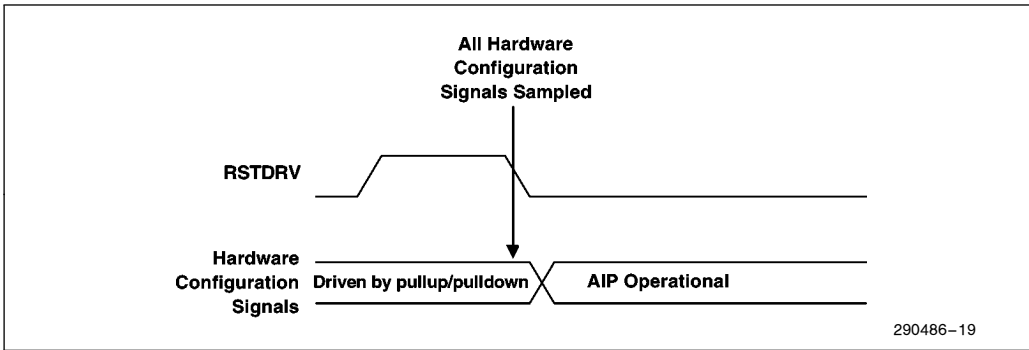
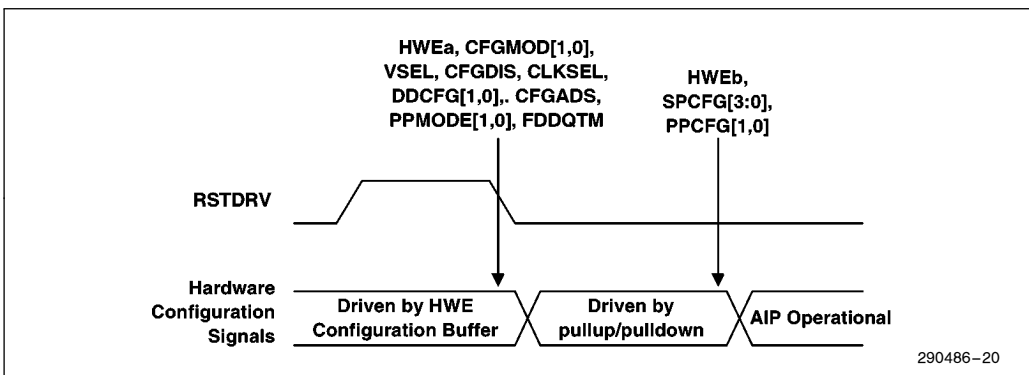
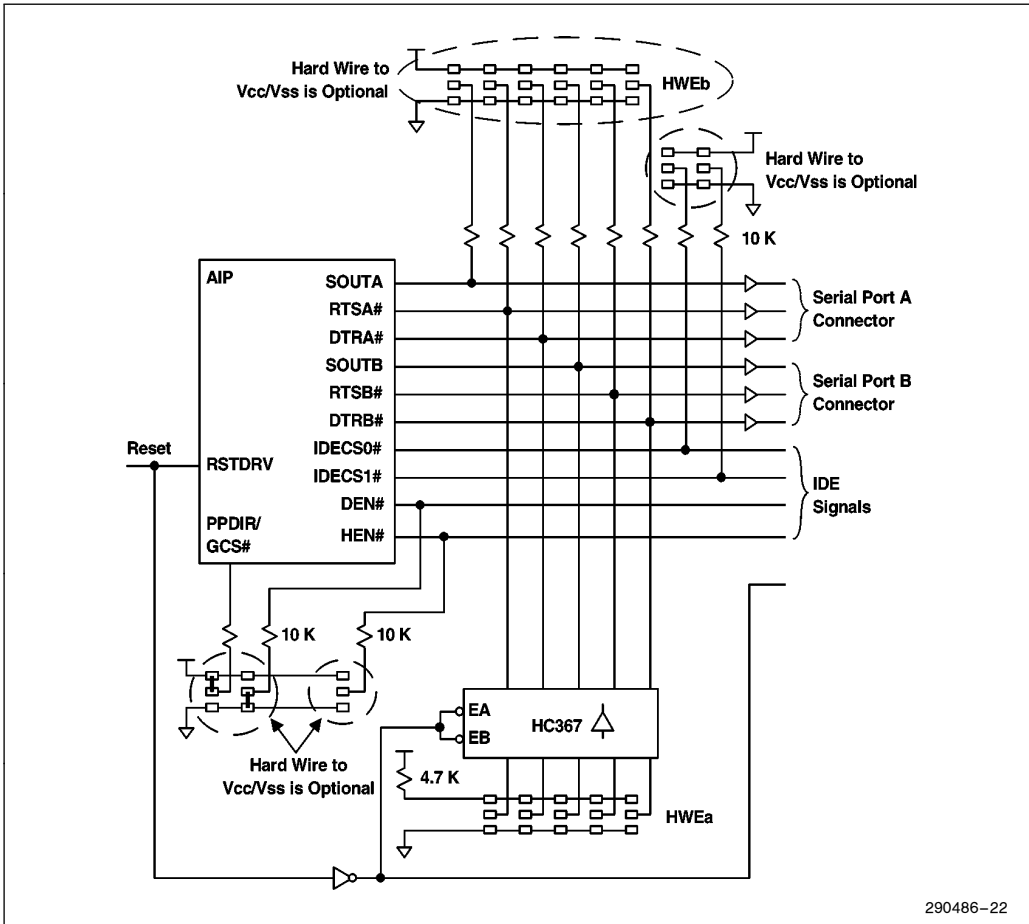

Figure 19. HWB, SWMB, and SWAI Hardware Configuration Mode Timing
Figure 20. HWE Hardware Configuration Mode Timing
Figure 22. Hardware Extended Configuration
1. HWEa and HWEb reference the switching banks shown in Figure 22.
The 82091AA samples all of the hardware configuration signals on the high-to-low transition of RSTDRV. For the HWB, SWMB, and SWAI modes, the 82091AA completes hardware configuration on this sampling (Figure 19). For HWE mode, the 82091AA samples some of the signals twice (Figure 20). The first sampling occurs on the high-to-low transition of RSTDRV. As Figure 22 shows (see Section 4.2.5, Extended Hardware Configuration Mode), the HC367 tri-states its outputs when RSTDRV is negated. This permits the strapping options from the HWEb block to be sampled. A short time after RSTDRV is negated (the time is specified in Section 11.0, Electrical Characteristics), the 82091AA samples the SOUTA, RTSA#, DTRA#, SOUTB, RTSB#, and DTRB# signals.
When RSTDRV is asserted, the HC367 drives the values on SOUTA, RTSA#, DTRA#, SOUTB, RTSB#, and DTRB# (Figure 22). When RSTDRV is negated, the HC367 is disabled and these serial port signals are driven by HWEb pullup/down resistors. The PPDIR/GCS# signal defaults to a game port chip select (GCS#). To reconfigure the 82091AA using software, the 82091AA configuration mode must be changed to SWAI mode (refer to AIPCFG1 register).